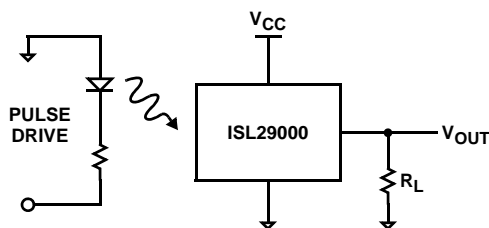

FIGURE 1. RISE/FALL TIME MEASUREMENT
1. Switching time measurement is based on Figures 1 and 2.
For some applications, a load resistor is added between the output and the ground as shown in Figure 1. The output voltage can be expressed in the following equation: